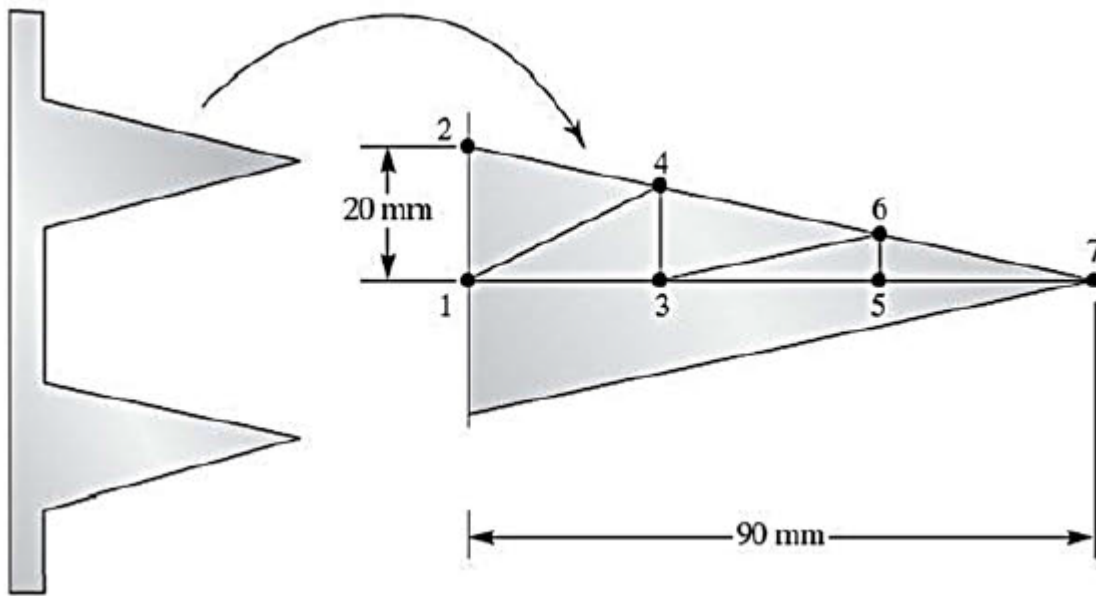

Figure P7.15
15. Aluminum fins with triangular profiles, shown in the accompanying **Figure P7.15**, are used to remove heat from a surface whose temperature is 150°C . The temperature of the surrounding air is 20°C . The natural heat transfer coefficient associated with the surrounding air is $30 \text{ W/m}^2\cdot\text{K}$. The thermal conductivity of aluminum is $k = 168 \text{ W/m}\cdot\text{K}$. Using manual calculations, determine the temperature distribution along a fin. Approximate the heat loss for one such fin.